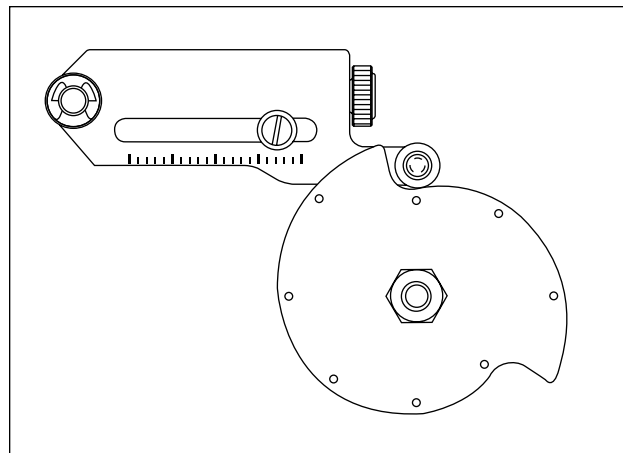

Figure 3: Alignment for Cams
4. Make sure the round mark on the left hand side of the characteristic curve is lined up with the span arm roller bearing. See Figure 3.